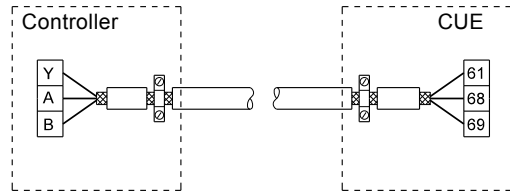
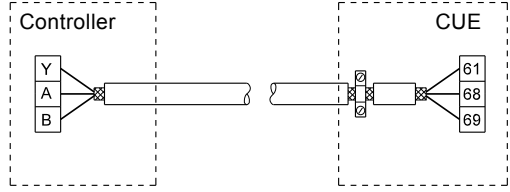

Fig. 39 Example of connection of a 3-conductor bus cable with screen connected at both ends
Fig. 40 Example of connection of a 3-conductor bus cable with screen connected at the CUE (controller with no cable clamps)
- Connect the screen to frame at both ends for both motor and signal cables. See fig. 39. If the controller has no cable clamps, connect only the screen to the CUE. See fig. 40.